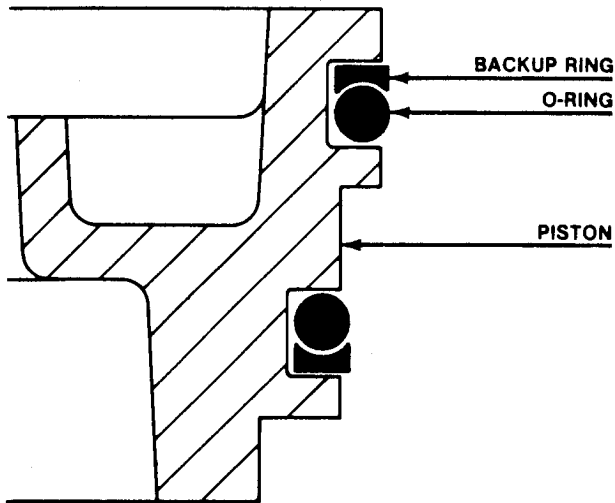

Figure 11-2. Back-up Ring Placement
- l. Back-up rings (6, 7) must be installed to outside of O-rings (8, 9) as shown in figure 11-2.